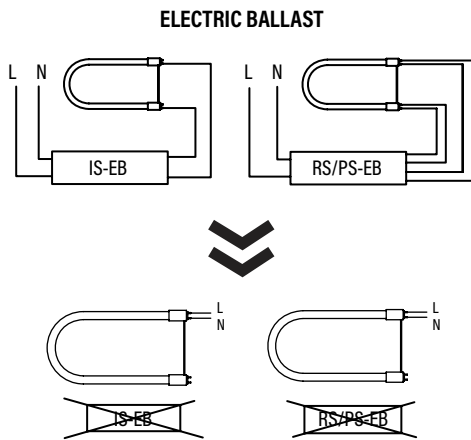
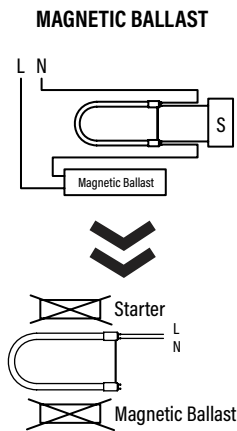

Fig. 1 The wiring can be single end or double end. The connection method refers to Step 3.
Fig. 2 The wiring can be Single Ended or Double Ended. The connection method refers to Fig. 3 or Fig. 4.
2. Remove the existing ballast and existing starter (if present) from the fixture (for electric ballast Fig. 1 and for magnetic ballast Fig. 2).